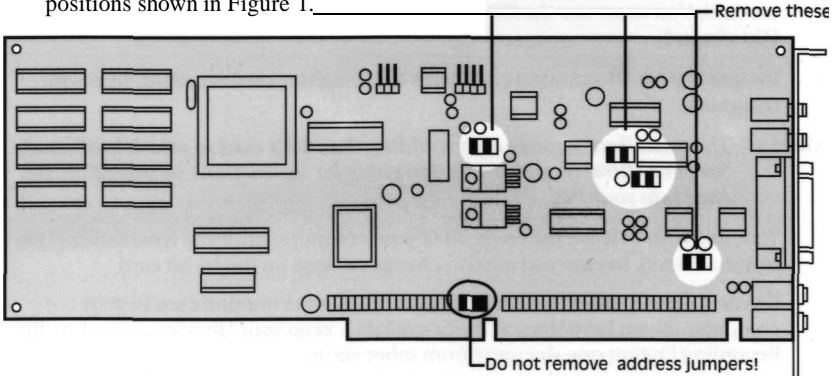

Fig. 1 -Location of jumpers to be removed from the UltraSound
- » With your fingers, remove the black, plastic clips from the four sets of jumpers shown in Figure 1. Do not remove any other clips!
Important! Keep the jumper clips in a safe place in case you want to remove the 16-bit card later for any reason. If you do wish to remove the 16-bit card and use the UltraSound without the daughter card, replace the jumper clips in the positions shown in Figure 1.